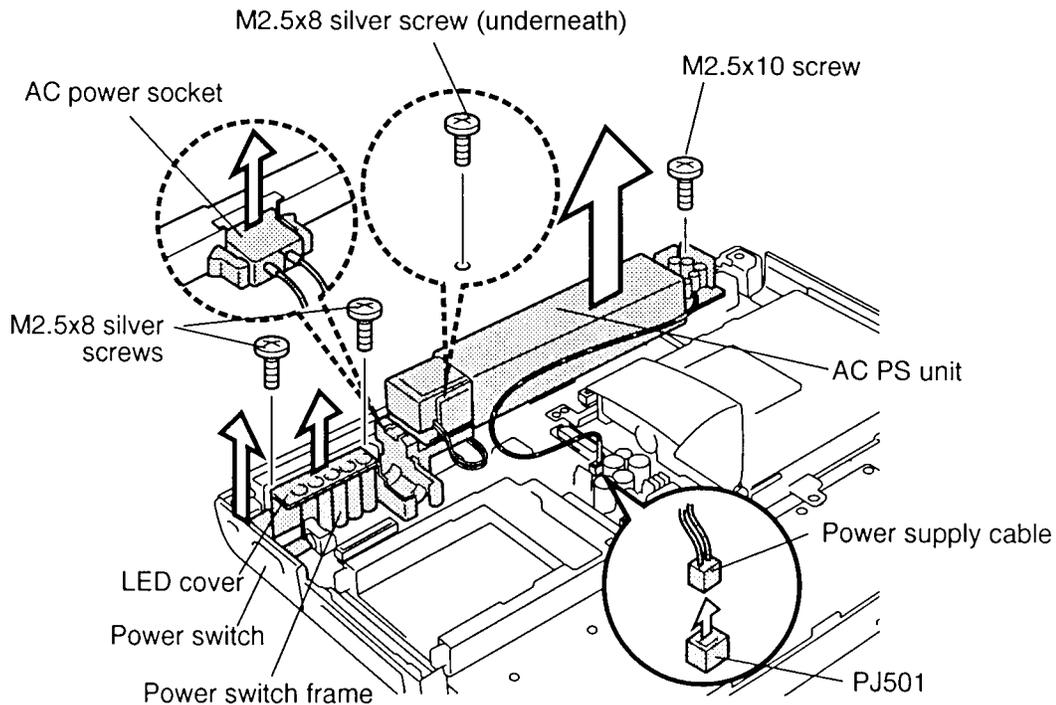

Figure 4-18 Removing the AC PS unit
11. Disconnect the **speaker cable** from **PJ 501** (figure 4-18).
To remove the T2150 series AC PS unit, follow the steps below and refer to figure 4-18.
3. Remove **one M2.5x10 screw** on the **AC PS unit** (figure 4-18).
4. Remove **three M2.5x8 silver screws** on the **LED cover** (figure 4-18).
5. Disconnect the **AC power cable** from **PJ501** and lift the **AC PS unit** with **AC power socket** from the system unit (figure 4-18).
To install the T2150 series AC PS unit, follow the steps below and refer to figure 4-18.
1. Seat the **LED cover/power switch frame** on the system unit (figure 4-18).
2. Secure **three M2.5x8 silver screws** on the **LED cover/power switch frame** (figure 4-18).
3. Seat the **AC PS unit** with **AC power socket** on the system unit and connect the **power supply cable** to **PJ501** on the system board (figure 4-18).
4. Secure **one M2.5x10 screw** on the AC PS unit (figure 4-18).